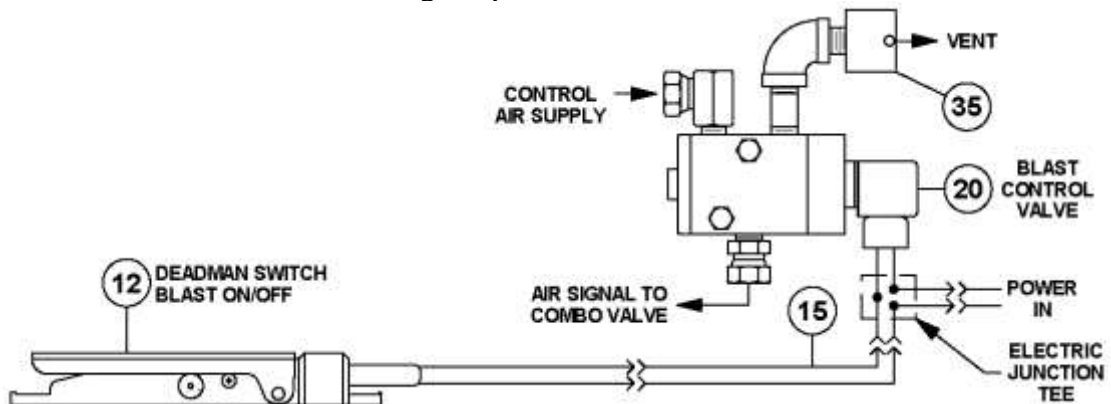

Figure 5.5 – Thompson Valve Electric Blast Control System
5.9.2. Electric Deadman System: When the electric deadman lever is pressed down it closes the electric circuit and supplies electric current to the control valve (#20). The control valve opens and sends air signals to the auto air valve (#9) and the Thompson® Valve (#14). When the deadman lever is released, the electric circuit is cut off, closing the control valve. The signal air vents from the breather (#35). See Figure 5.5 and the drawing in Section 9.2.